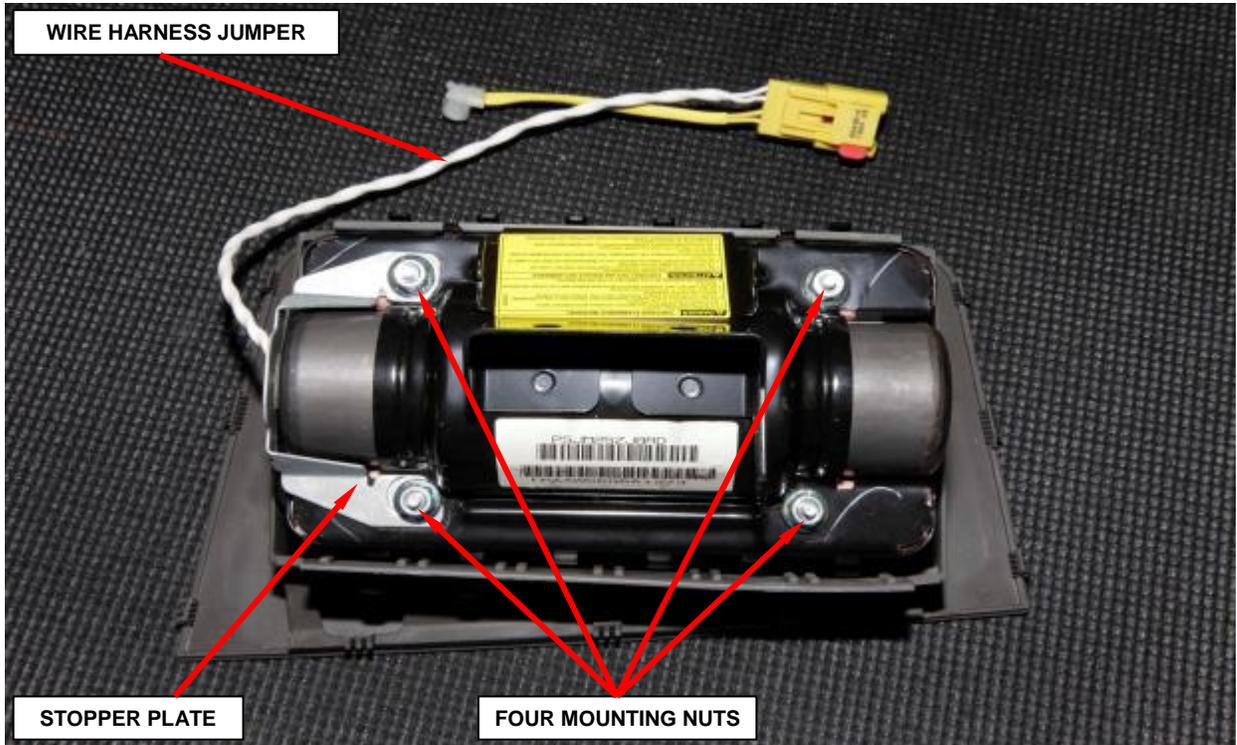

Figure 36 – Mounting Nuts and Stopper Plate
e. Remove and discard the four mounting nuts and stopper plate from the housing (Figure 36).
- h. Install the stopper plate to the passenger airbag module (Figure 36).
- i. Install the four new mounting nuts to the passenger airbag module and tighten to 53 in. lbs. (6 N·m) (Figure 36).